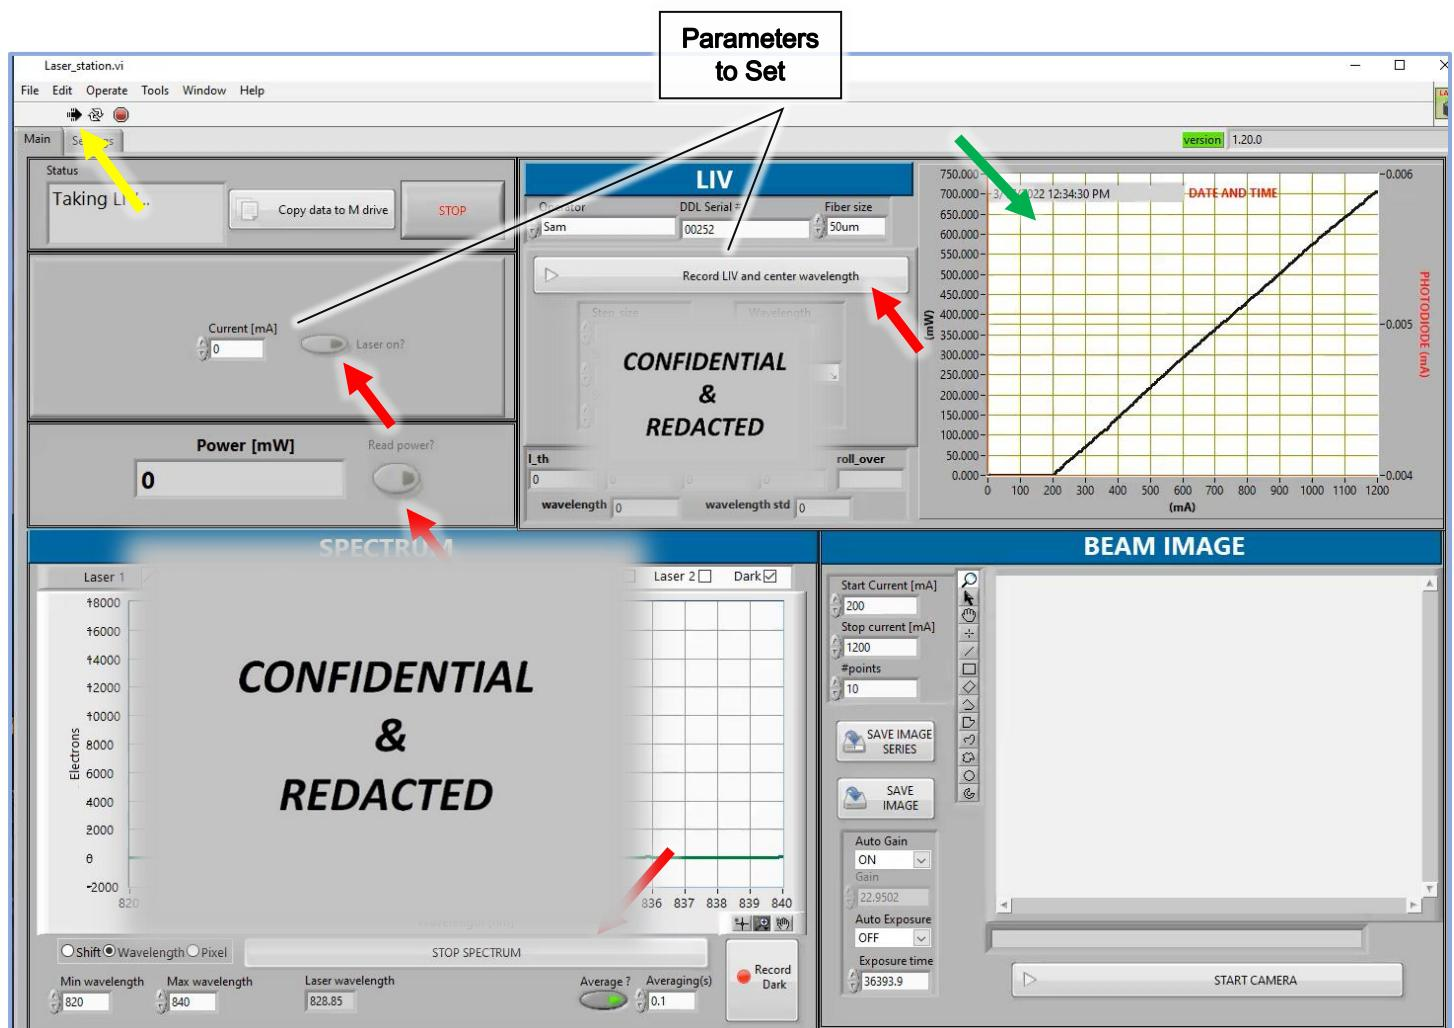

Figure 33 - Computer Application for LIV Test (laser.station.vi)
- 10.2.4.2 Click the **arrow button** in the upper left in the application window to run the application (Indicated by the yellow arrow in Figure 33).
- 10.2.4.5 Set the following parameters in the application. (Figure 33)
10.2.6 ACTIVATE LIV TEST. Click the Record LIV and Center Wavelength button pointed out in Figure 33 to initiate the LIV test. The test will continue for 2-3 minutes until the ‘Stop current’ (XXXmA) is reached. The data displayed in the LIV live data graph (indicated by the green arrow in the figure) should resemble the slope seen in the figure.